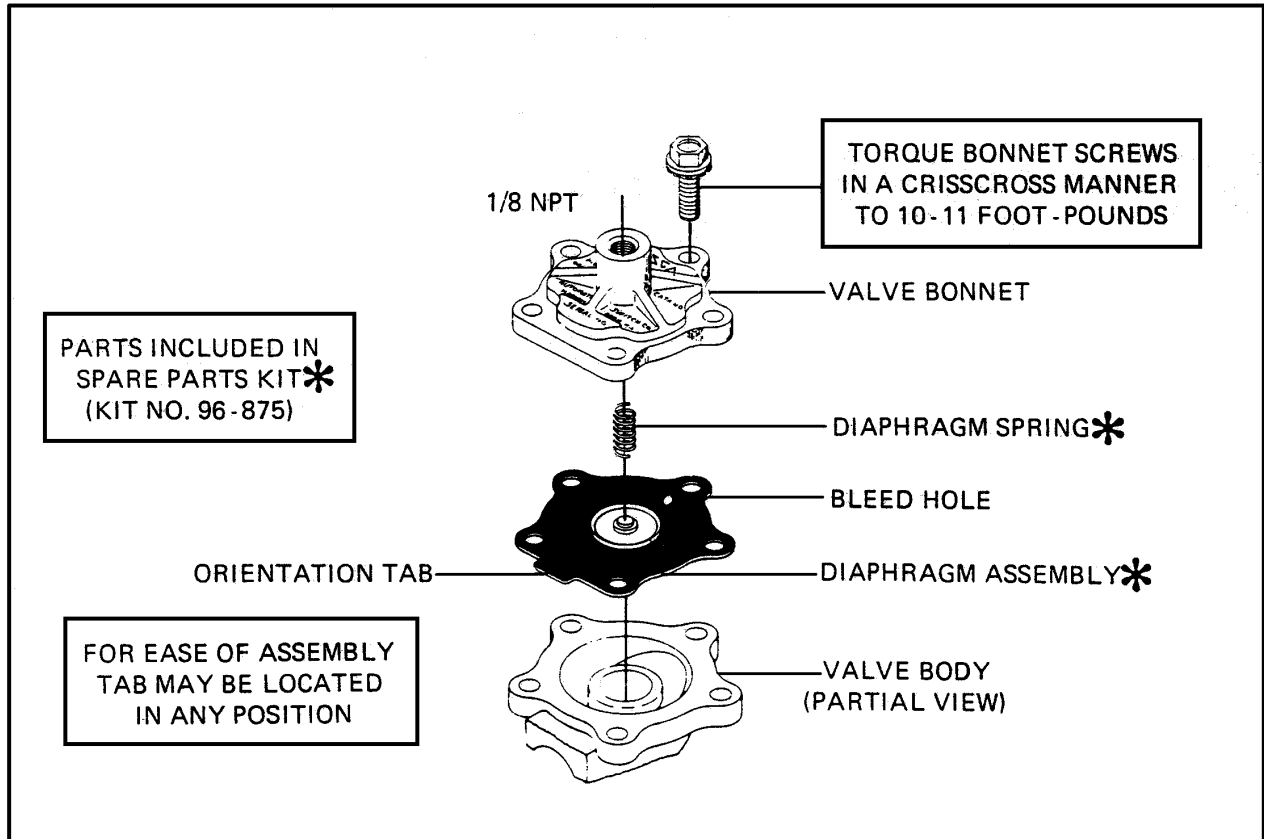

Figure 1. Bulletin 8353
VALVE DISASSEMBLY AND REASSEMBLY (Refer to Figures 1 & 2)
Note: Inlet port will either be marked "1" or "IN". Outlet port will be marked "2" or "OUT". (see Figure 1)
Two (2) M5 threaded holes are provided in the valve body for mounting. (See Figure 1)